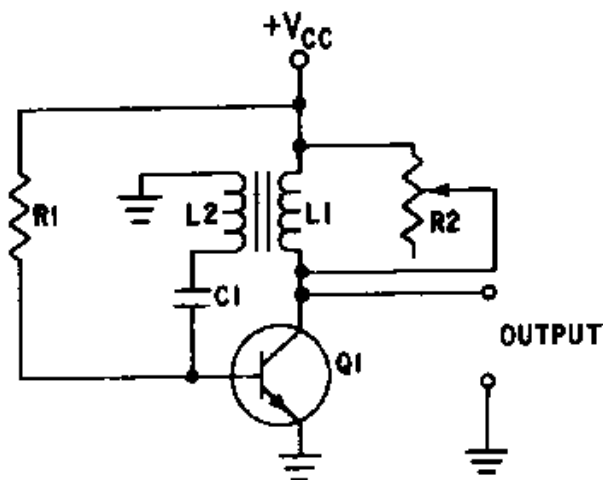

Figure 3-35.—Circuit damping.
The collector waveform may have an INDUCTIVE OVERSHOOT (PARASITIC OSCILLATIONS) at the end of the pulse. When Q1 cuts off, current through L1 ceases, and the magnetic field collapses, inducing a positive voltage at the collector of Q1. These oscillations are not desirable, so some means must be employed to reduce them. The transformer primary may be designed to have a high dc resistance resulting in a low Q; this resistance will decrease the amplitude of the oscillations. However, more damping may be necessary than such a low-Q transformer primary alone can achieve. If so, a DAMPING resistor can be placed in parallel with L1, as shown in figure 3-35.
When an external resistance is placed across a tank, the formula for the Q of the tank circuit is $Q = R/X_L$, where R is the equivalent total circuit resistance in parallel with L . You should be able to see from the equation that the Q is directly proportional to the damping resistance (R). In figure 3-35, damping resistor $R2$ is used to adjust the Q which reduces the amplitude of overshoot parasitic oscillations. As $R2$ is varied from infinity toward zero, the decreasing resistance will load the transformer to the point that pulse amplitude, pulse width, and prf are affected. If reduced enough, the oscillator will cease to function. By varying $R2$, varying degrees of damping can be achieved, three of which are shown in figure 3-36, view (A), view (B) and view (C).